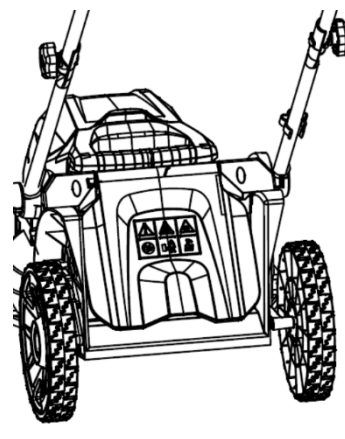

Fig. 8C
3. Lower the rear cover again. (Fig.8C)